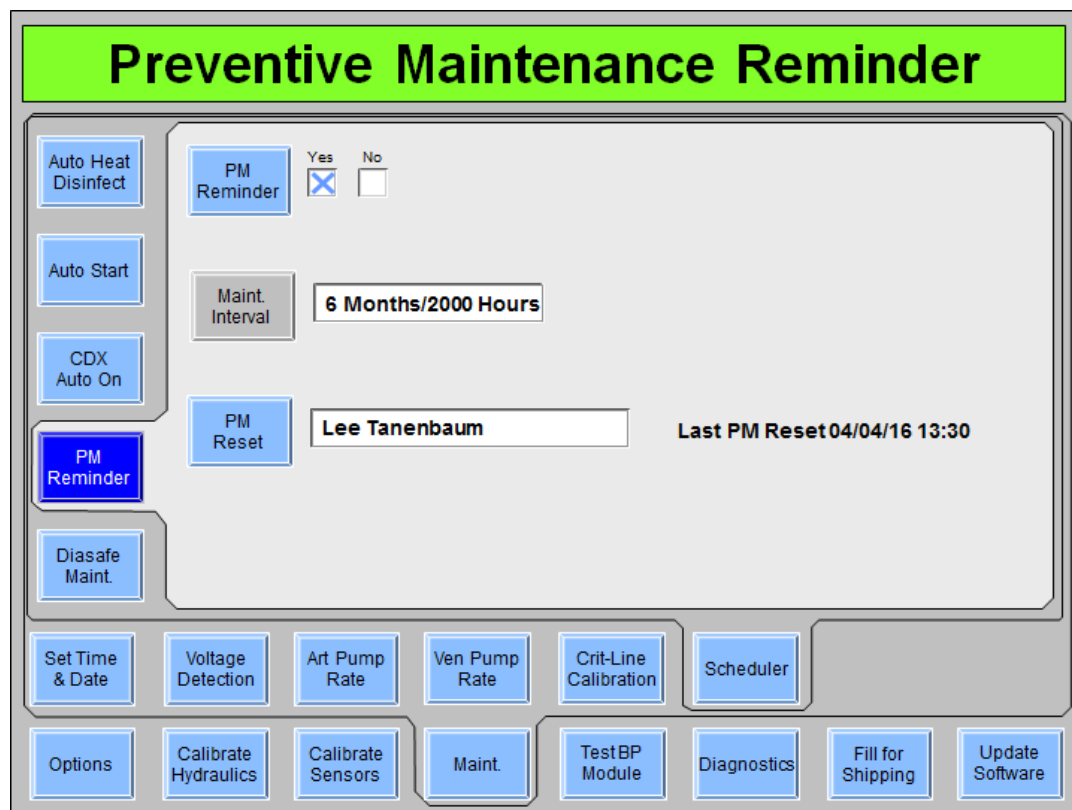

Figure 128 – Scheduler PM Reminder Screen (showing functional software version 2.72 or later)
3. Select the **PM Reset** button and, using the keyboard, enter the technician's name setting the PM reminder then press the **CONFIRM** key. This will reset the six month countdown clock from the last PM date and save the technician's name and date the PM interval was reset (see Figure 128). This overwrites the name and date of the technician who performed the previous PM reset.